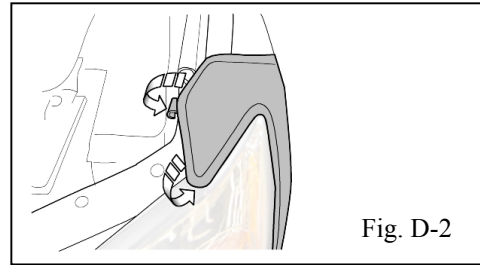

Fig. D-2
- ➔ 1. Place fender pocket of mask over fender point above headlight (Fig. D-2.) Attach one (1) elastic strap with “S” hook to edge of fender flange. Repeat on other side of the vehicle.